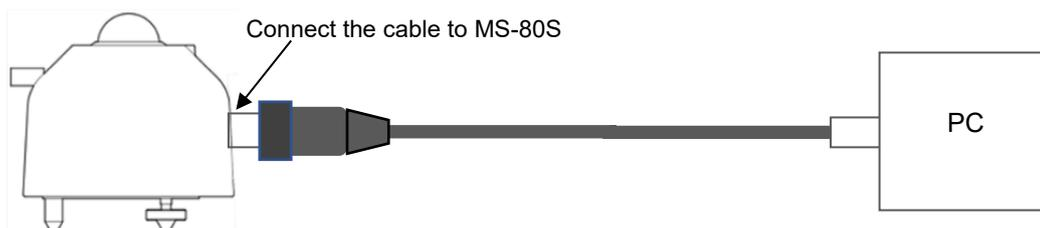

Figure A3-2. Using "EKO Converter cable"
- 4) If you use the optional "EKO Converter cable", you can install it simply by inserting the cable connector into the main unit. Power for the MS-80S can be supplied via USB. (See Figure A3-2).